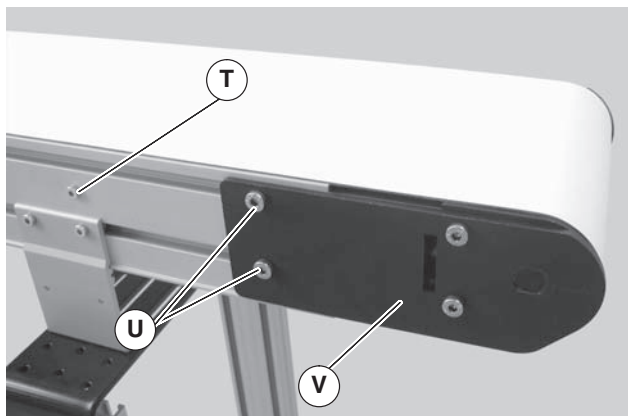
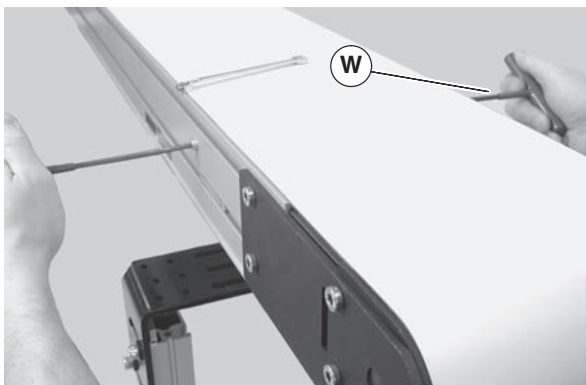

Figure 33
Figure 34
1. On tension end of the conveyor, identified by the pinion locking screw (Figure 33, item T), loosen the two tail clamp bolts (U), on both sides of conveyor.
2. With 5mm hex wrench, hold pinion torque screw (Figure 34, item W). Loosen the pinion locking screw (Figure 33, item T) and turn the pinion torque screw (W) to extend head plate assembly.
4. After adjusting proper tensioning, tighten the pinion locking screw (Figure 33, item T) to 69 in-lbs (7.8 N-m), and tighten tail clamp bolts (Figure 33, item U) on both sides of conveyor to 146 in-lb (16.5 N-m).
1. Ensure tensioning racks are extended and touching the idler pulley headplates: loosen the pinion locking screw (Figure 33, item T) and rotate the pinion torque screw (Figure 34, item W) clockwise until contact with the head plate is made, then tighten the pinion locking screw (T) to 69 in-lbs (7.8 N-m)